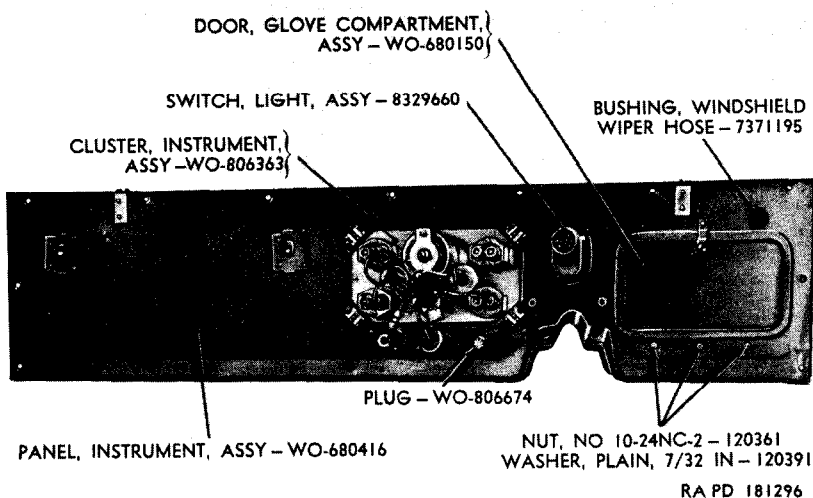

Figure 160. Rear of instrument panel.
- (6) Pull instrument panel from body cowl. Remove glove compartment door assembly (fig. 160), instrument cluster, and other parts, if necessary.